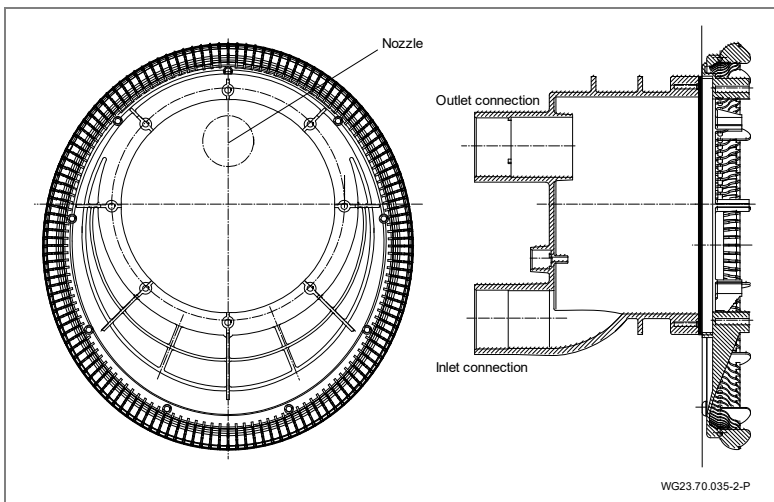
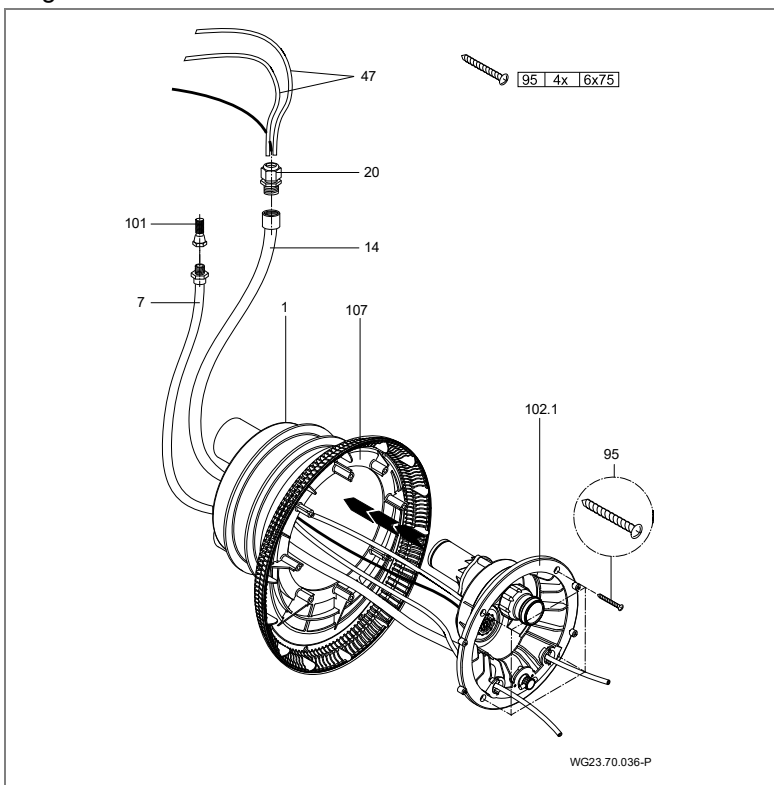
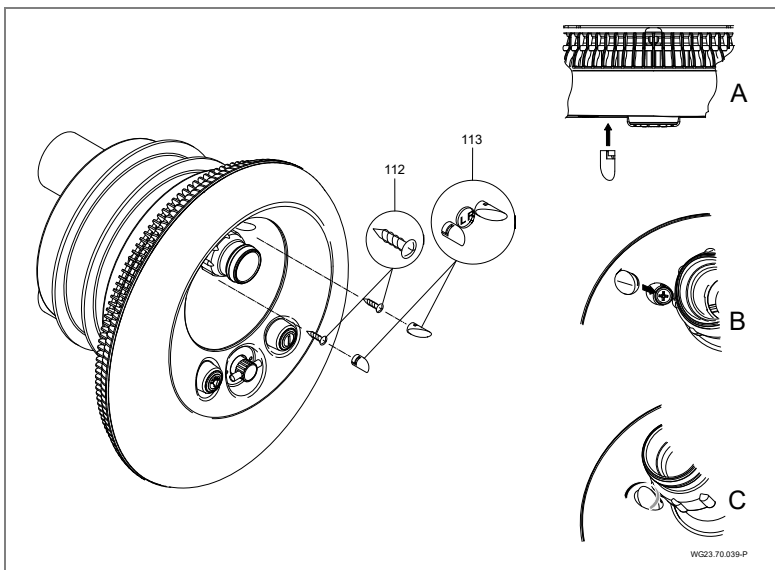

Fig. 16
Fig. 17
Fig. 20
2. Position the suction housing (107) on the clamp ring. Pay attention to the mounting position. (Fig. 16)
3. Position the nozzle housing (102.1) on the main housing (1).
4. Lead the pneumatic hoses (47) and floodlight cables through the protective conduit (14) and seal with the cable gland (20).
5. Attach the air pipe to the air regulator (21), assembled on site, with a clamp (8).
6. Attach the nozzle housing (102.1) to the main housing (1) with four tapping screws (95). (Fig. 17)
10. Attach the decorative caps in the light cover as in Fig. 16. Use the correct decorative cap for left (L) and right (R). (Fig. 20)
1. Loosen cable screw (20).
4. Unlock cover (113). See "Fig. 20" on page 33.
5. Loosen screws (112) and remove lighting cover (110).
6. Loosen screws (49) and remove stainless steel cover (93).
7. Loosen screws (95) and remove suction housing (107).
8. Loosen screws (52) and remove support ring (28) and support ring seal (27).